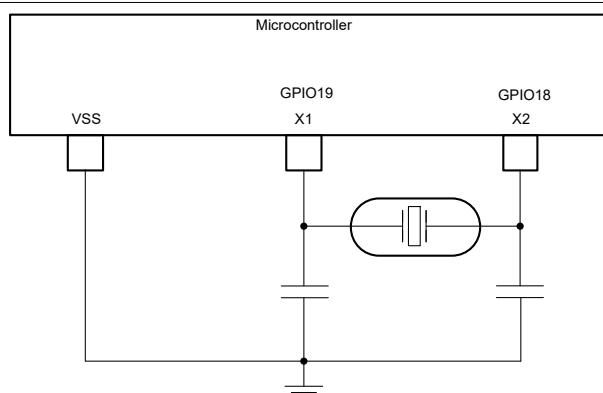

Figure 6-11. External Crystal
- An external crystal. The crystal should be connected across X1 and X2 with its load capacitors connected to VSS as shown in Figure 6-11.